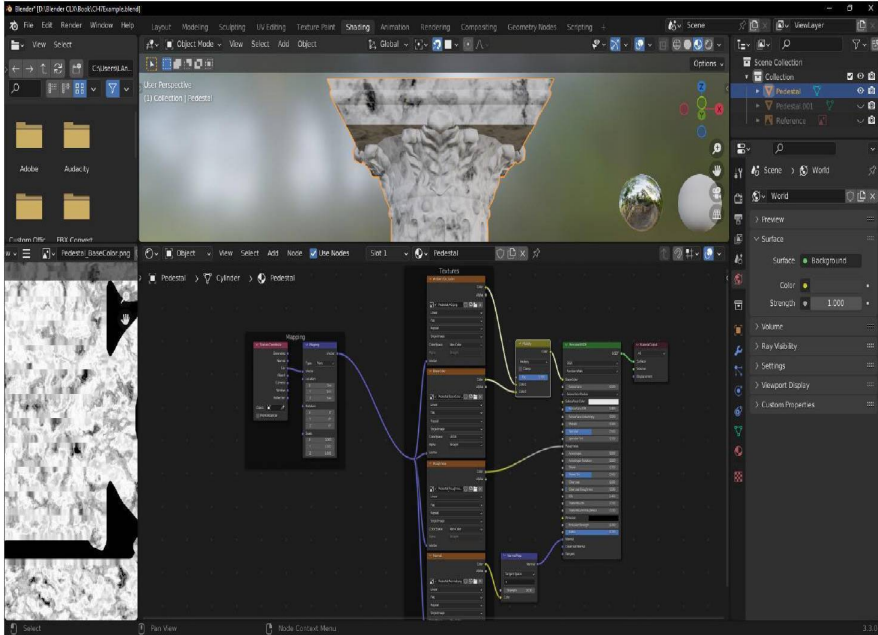

Figure 7.25: Low poly Pedestal object with baked textures assigned to the Material's Principled BSDF Shader
55. Then connect the Color outputs of the Ambient Occlusion and Base Color texture nodes to the **MixRGB node’s** Color1 and Color2 inputs, change from Mix type to Multiply in the node’s drop-down menu, increase the Fac parameter to 1, and replace the Base Color input in the **Principled BSDF node** with the **MixRGB node’s** Color output as shown in *Figure 7.25*: